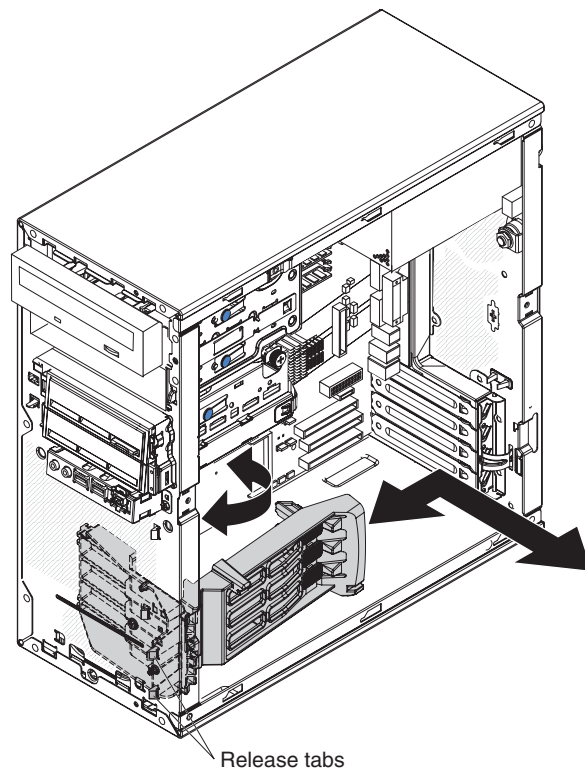

Figure 14. Removing the front adapter-retention bracket
8. From the front of the computer, press down and inward on the two retention tabs that secure the top of the adapter-retention bracket to the chassis (see Figure 14).